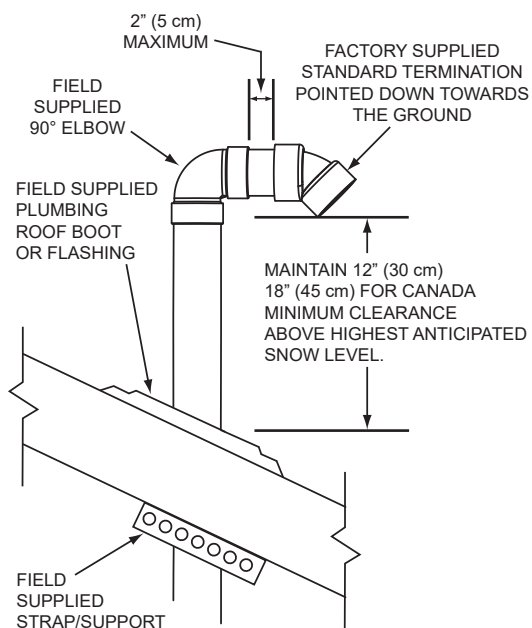
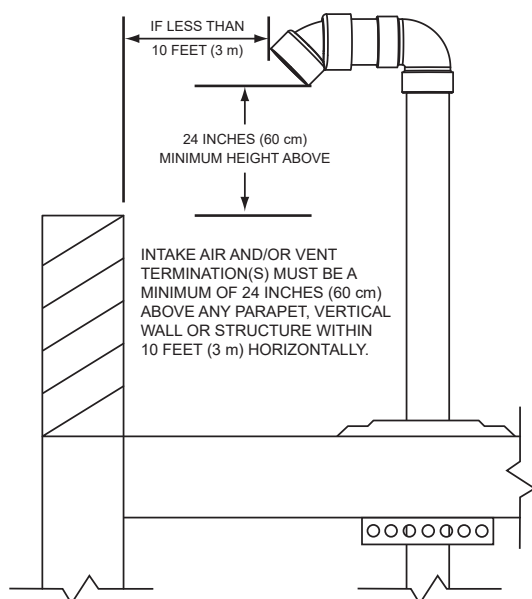
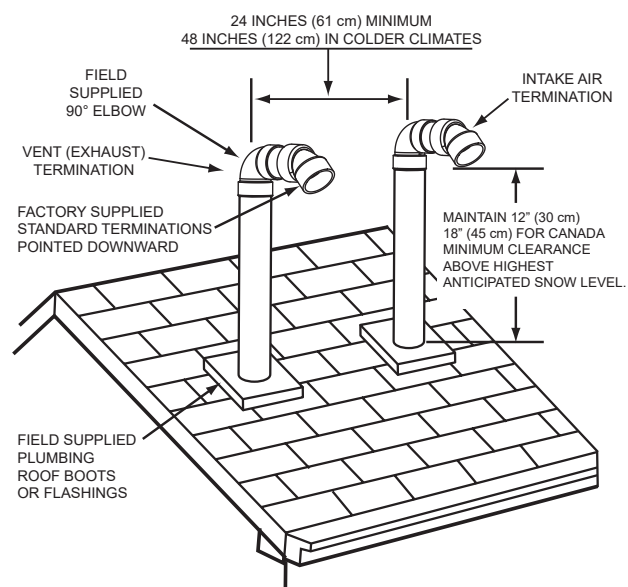

Figure 25. Vertical Termination(s) Installation: Intake Air and/or Vent (Exhaust)
Figure 26. Vertical Termination Flat Roof Clearance - Intake Air and/or Vent (Exhaust)
Figure 27. Vertical Termination - Direct Vent: Standard Terminations
2. If installing only the vent (exhaust) piping in a Power Vent configuration vertically through the roof; ensure that all exterior vertical clearance requirements shown in **Figure 25** (page 37) and **Figure 26** (page 37) are being maintained. These clearances and those cited by local and national codes must be maintained.
Note: On flat roof installations the vent termination must be a minimum of 24 inches (60 cm) above any parapet, vertical wall or structure within 10 feet (3 m) horizontally. See **Figure 26**.
3. If installing both intake air and vent piping in a Direct Vent configuration vertically through the roof; ensure that all exterior vertical clearance requirements shown in **Figure 25** (page 37) and **Figure 26** (page 37) are being maintained. These clearances and those cited by local and national codes must be maintained.
Note: On flat roof installations the intake air and the vent terminations must be a minimum of 24 inches (60 cm) above any parapet, vertical wall or structure within 10 feet (3 m) horizontally. See **Figure 26** (page 37).
- The vent termination must be oriented facing downward as shown in **Figure 25** and **Figure 26** (page 37).
- The bottom edge of vent termination must be a minimum of 12 inches (30 cm), 18 inches (45 cm) in Canada, above average or expected snow level as shown in **Figure 25** (page 37).
- The intake air and vent pipes must penetrate the same side of the roof as shown in **Figure 27** (page 37).
- The intake air and vent terminations must be oriented facing downward and in the same direction as shown in **Figure 27** (page 37).
- The intake air and vent terminations must have a minimum separation of 24" (61 cm) measured on center line as shown in **Figure 27** (page 37). In colder climates this separation should be increased to at least 48 inches (122 cm).
- The bottom edge of the intake air and vent terminations must be a minimum of 12 inches (30 cm), 18 inches (45 cm) in Canada, above the average or expected snow level as shown in **Figure 25** and **Figure 27** (page 37).
- The distance between the closest vent and intake air terminations must be a minimum of 24 inches (61 cm) as shown in **Figure 27** (page 37). In colder climates this separation should be increased to at least 48 inches (122 cm).
8. Suspend the pipe(s) through center of hole using field-supplied metal strapping or equivalent support materials as shown in **Figure 25** (page 37).
9. Slide a roof boot or equivalent flashing over the pipe and secure roof boot or equivalent flashing to roof and seal around the flashing as shown in **Figure 25**, **Figure 26** (page 37), and **Figure 27** (page 37).
10. Install the factory-supplied intake air and/or vent termination(s) using field-supplied pipe and one field-supplied 90° elbow as shown in **Figure 25** (page 37). The short section of pipe that connects between the field-supplied 90° elbow and the factory-supplied termination must not be excessive in length. The exposed portion of this pipe shall be no more than 2 inches (5 cm).